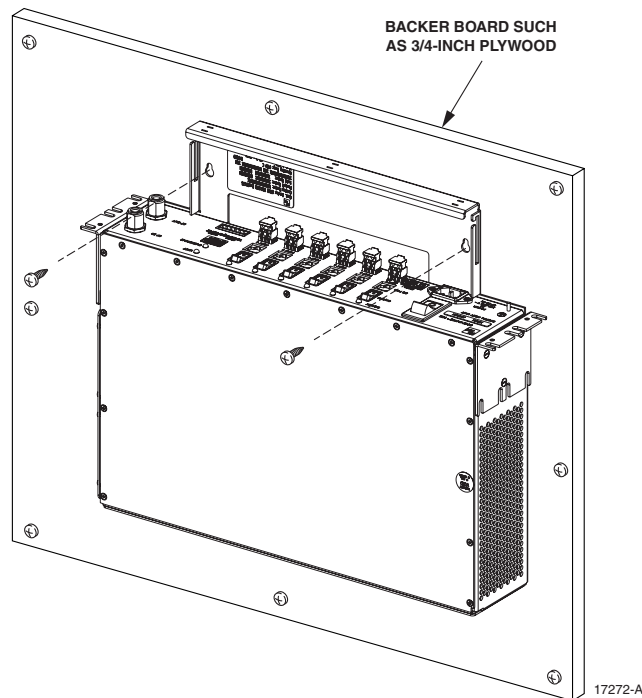

Figure 16. DHU Wall-Mount Installation
2. Position the DHU on the mounting surface in the specified location (per the system design) with the front panel facing up as shown in Figure 16.